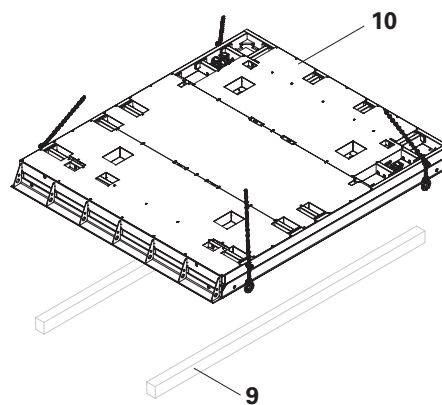

Fig. B1.04
1. Lay out timber (9) or planking as a base. The assembly area must be even.
2. Place Heated Formwork Panel (10) with formlining facing downwards on the supports. (Fig. B1.04)